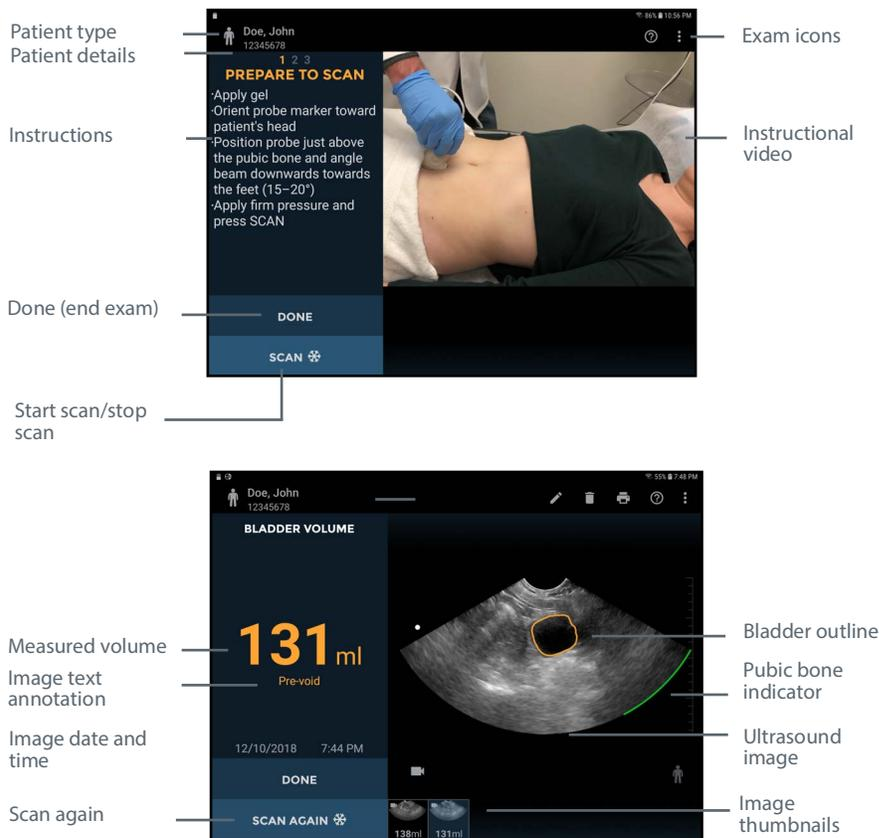

FIGURE 9. Bladder scan screens
4. Select **Mobile Printer** to pair it with the system (see Figure 9).
See FIGURE 9. Bladder scan screens for bladder screen layouts.